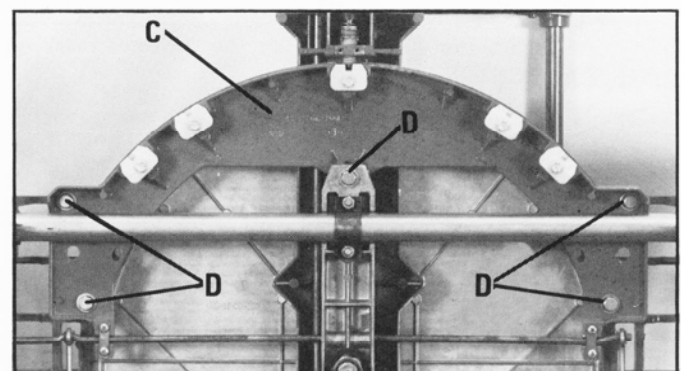

Fig. 27
4. Loosen the five hex head screws (D) Fig. 27 located underneath the saw base and shift the index quadrant (C) Fig. 27, until the saw blade travels parallel to the square. Then tighten the five screws (D) Fig. 27.